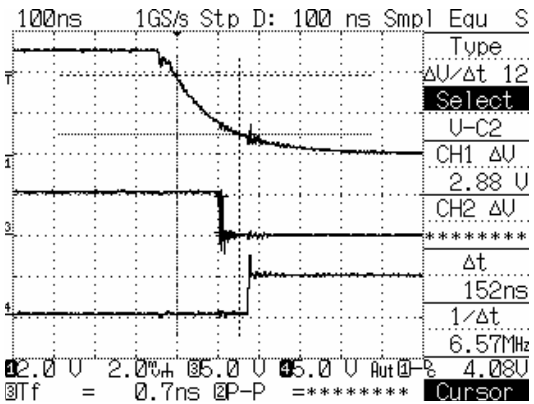

Fig. 12
Step 7: Timing adjustment. The Timing adjustment should be performed under light load circumstance. A variable resistor, 0~100K Ω , is connected from Timing pin to V_{DD} and adjust the variable resistor. Changing the resistor value will change dv/dt slope. This resistor value normally is from 8Kohm to 20Kohm. The typical relation between resistor value and the Delta T is shown in Figure 12.